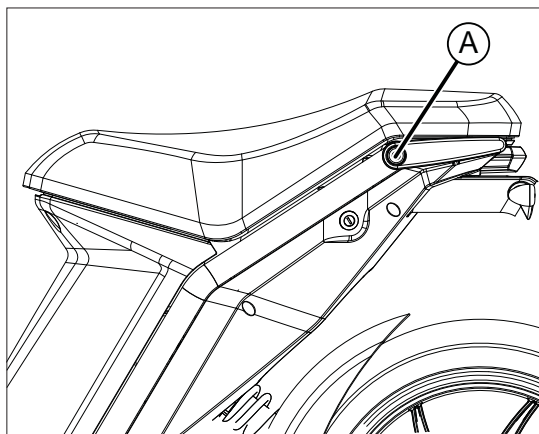

fig. 16
To access the storage compartment below the seat fig. 16:
- insert the key in the lock A fig 16 on the left side of the scooter.